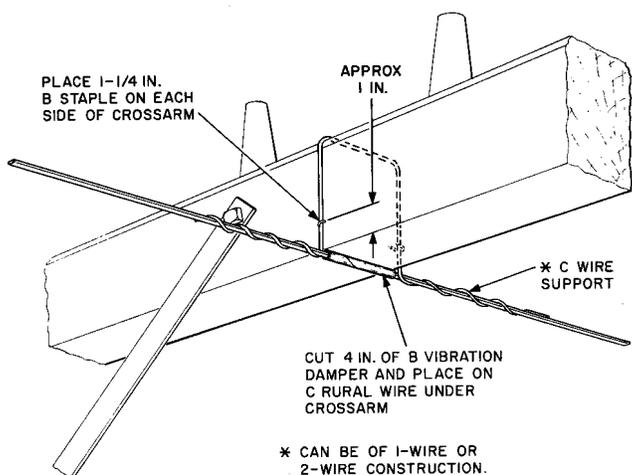

Fig. 10—Attaching to Crossarm on Corner Poles With Pull Up to 10 Feet
8.02 Attachments to crossarms on in-line poles and on poles with corners up to 10 feet of pull are made with the C wire support as shown in Fig. 10. Other C rural wires can be run parallel to the first provided a separation of at least 3 inches is maintained.